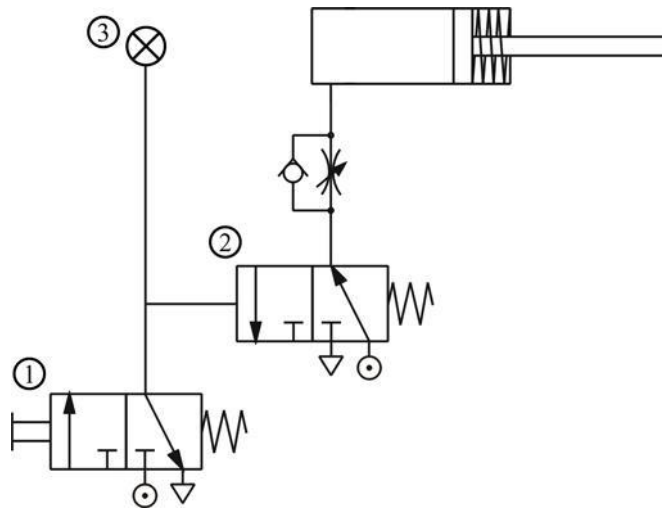

Fig. 31 Circuit diagram for a NOT function circuit
Another name for a NOT function is inverse control. In order to hold or lock an operating conveyor or a similar machine, the cylinder must be locked until a signal for cancelling the lock is received. Therefore, the signal for cancelling the lock should be operated by a normally open type control valve. However, to cancel the lock, the same signal must also cancel the locks on other devices, like the indication signal ③ in Fig. 31. Fig. 31 shows how the normally closed type control valve ① can be used to cut off the normally open type control valve ② and achieve the goal of changing the signal.